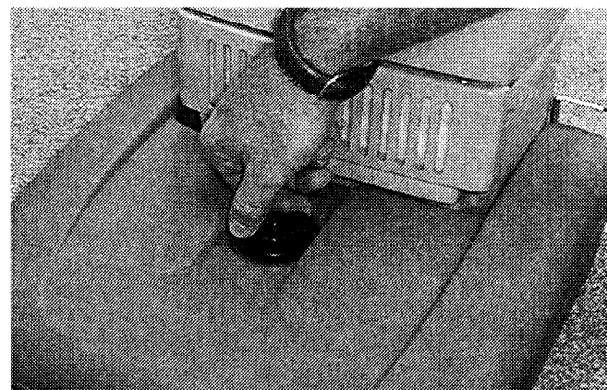

FIG. 5
- Adjust brush height. Turn brush height adjustment dial to desired setting as follows (Figure 5):